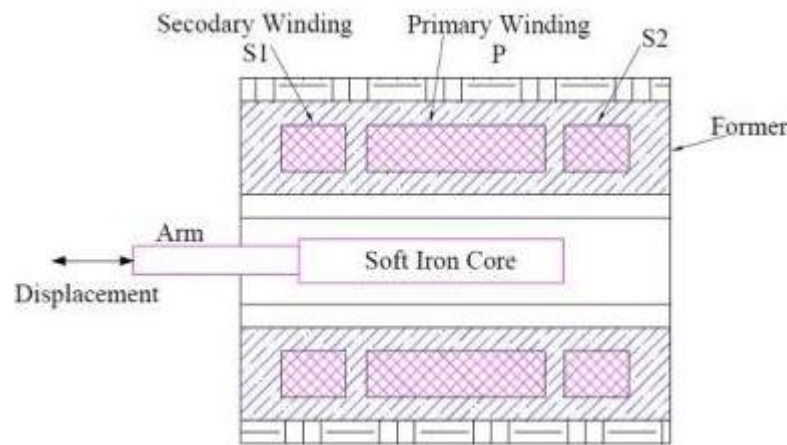

Figure 4.2 LVDT
- An LVDT provides an alternating current (AC) voltage output proportional to the relative displacement of a transformer core with respect to a pair of electrical windings.
- It works on the mutual inductance principle. A primary coil and two secondary coils, identical to each other, are wound on an insulating form, as shown in Fig.4.2